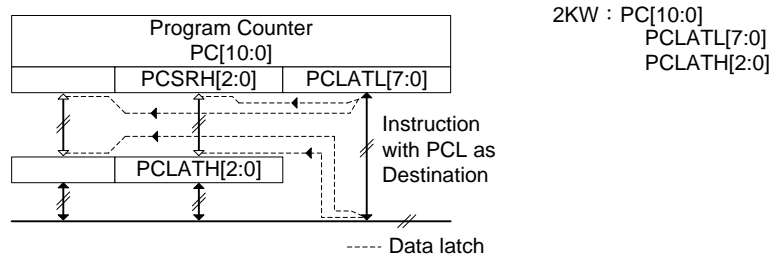

Figure 2-2 PC Architecture
2.2.1.2. Program Counter (PC)
Program Counter (PC) is composed of shift register PCSR and buffer register PCLAT. Se Figure 2-2 ◦